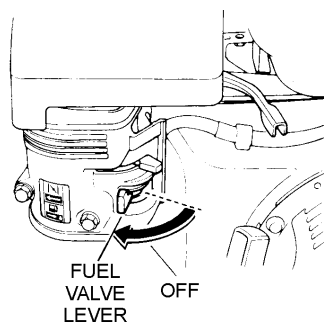

Figure 18. Fuel Valve Lever (OFF)
3. Place the fuel shut-off lever (Figure 18) in the "**OFF**" position.
1. There are two grease (Figure 18) fittings at each end of the electric motor that will require lubrication. Lubricate these fittings about **every 16 months**.